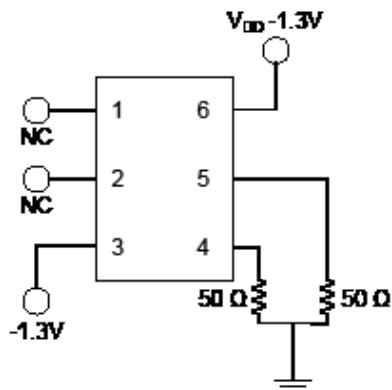

Figure 1.
2. Figure 1 defines the test circuit and Figure 2 defines these parameters.